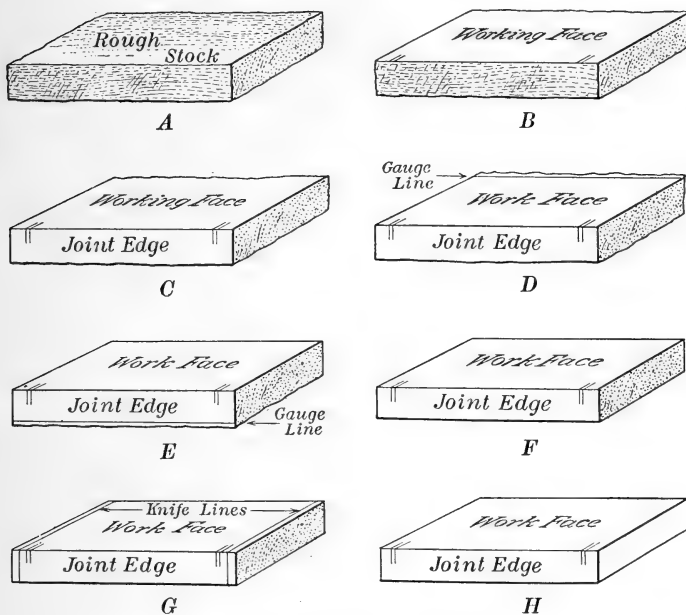

FIG. 49. The Successive Steps in squaring up Stock
22. Squaring up Stock. This term simply means to reduce a piece of sawed or rough lumber to one having smooth, flat sides at right angles to each other, and of definite length, breadth, and thickness (see Fig. 49).